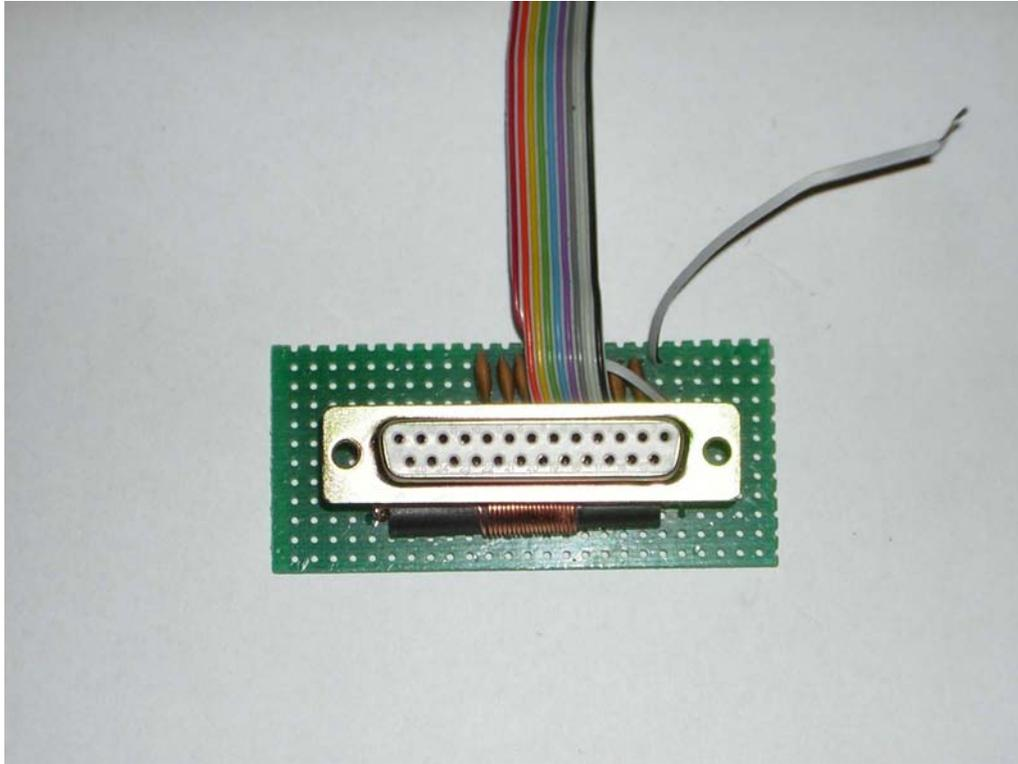

Figure 3. Finished board, top.
12. Solder the remaining lead of the nine conductor ribbon cable to the free end of the 18 uH choke. The completed board is illustrated in Figures 3 and 4.